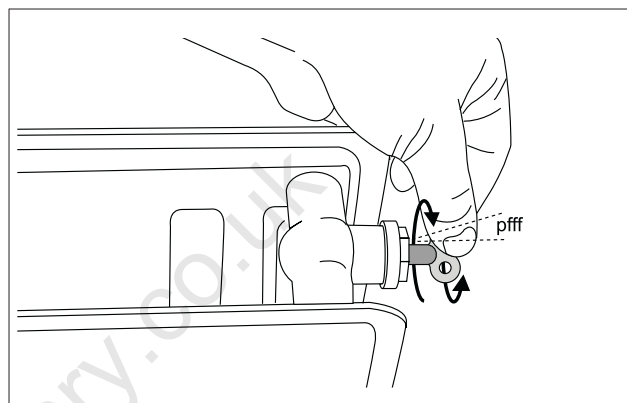

fig. 81 Purging the heating system
- Purge the heating system via the air vents on the radiators. Start at the lowest floor of the premises and then work your way up from floor to floor (fig. 81).